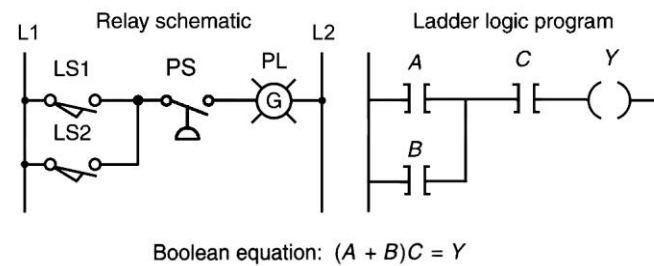

Figure 4-23 Program for assignment 3.
3) Program the relay schematic of Figure 4-23 using your PLC, and simulate its operation.